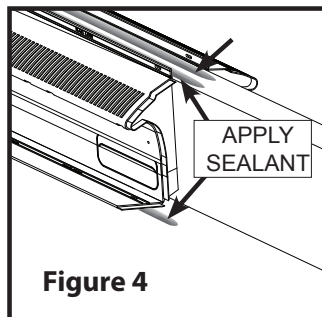

Figure 4
- Apply sealant under both the top and bottom hinged flanges. (WARNING: Ensure that the sealant on the bottom flange is on the ridge side of the nail line.) (See Figure 4)